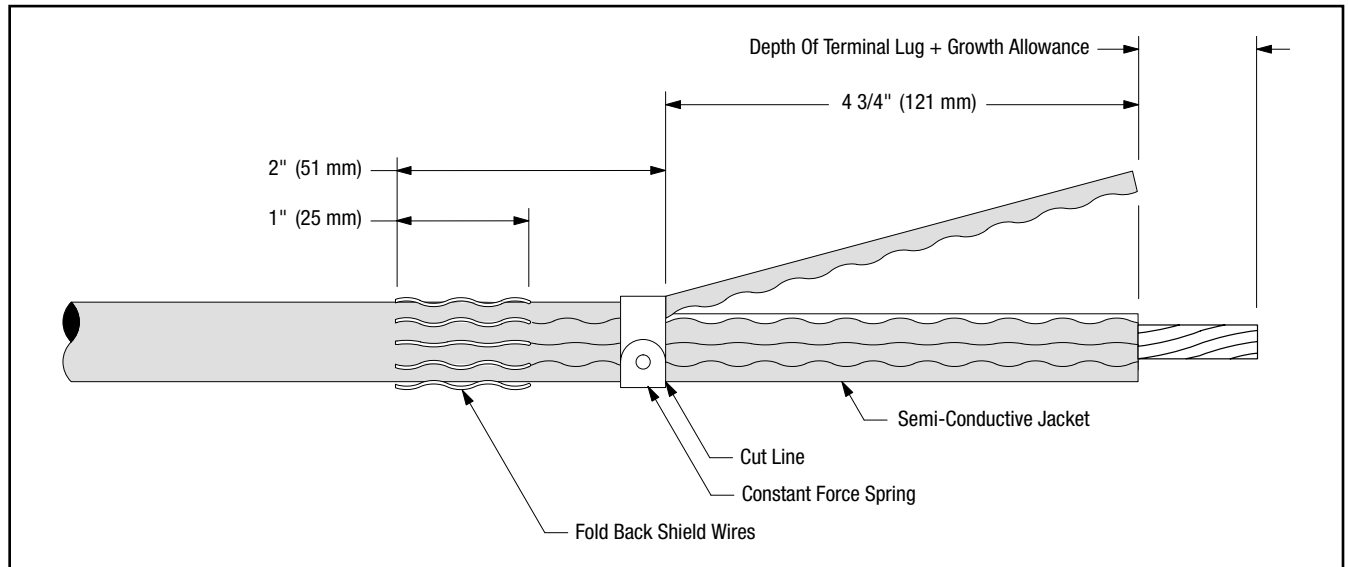

Figure 17
12.5 Remove semi-conductive jacket to dimension shown in *Figure 17*.
**NOTE:** To ease jacket removal, install constant force spring as shown in *Figure 17* and ring cut 80% through jacket. Remove jacket sections by pulling against constant force spring. **DO NOT BELL SEMI-CON JACKET.** Remove constant force spring.